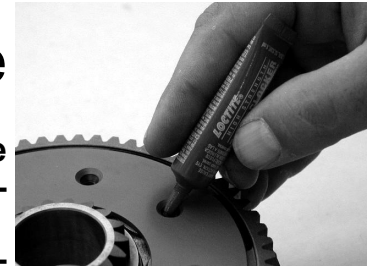

Figure 4
- Apply Red Loctite* #272 generously to the cleaned screws and to the threads on the basket (Figure 4 and 5)